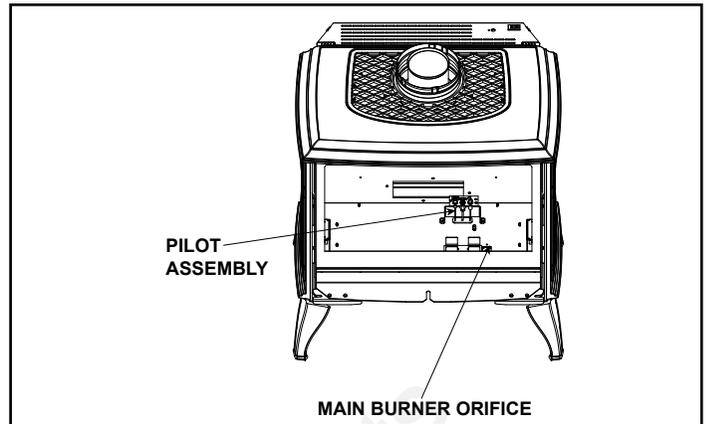

Figure 6.13
14. Using the 3/8 in. open end wrench, replace the main burner orifice with the orifice included in the conversion kit. Use appropriate orifice for gas type. See Figure 6.13.